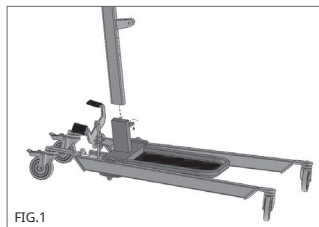

FIG.1
1. Unscrew the screw at the base of the column. (Fig.1)
2. Attach the column to the corresponding socket on the base. Insert the screw that secures the column to the base and tighten it securely. (Fig.1)